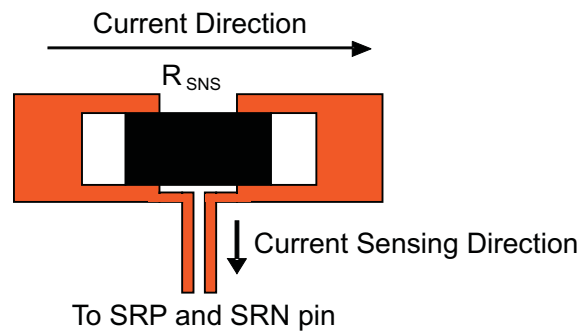

Figure 24. Sensing Resistor PCB Layout
3. The charging current sensing resistor should be placed right next to the inductor output. Route the sense leads connected across the sensing resistor back to the IC in the same layer, close to each other (minimize loop area) and do not route the sense leads through a high-current path (see Figure 24 for Kelvin connection for best current accuracy). Place decoupling capacitor on these traces next to the IC.